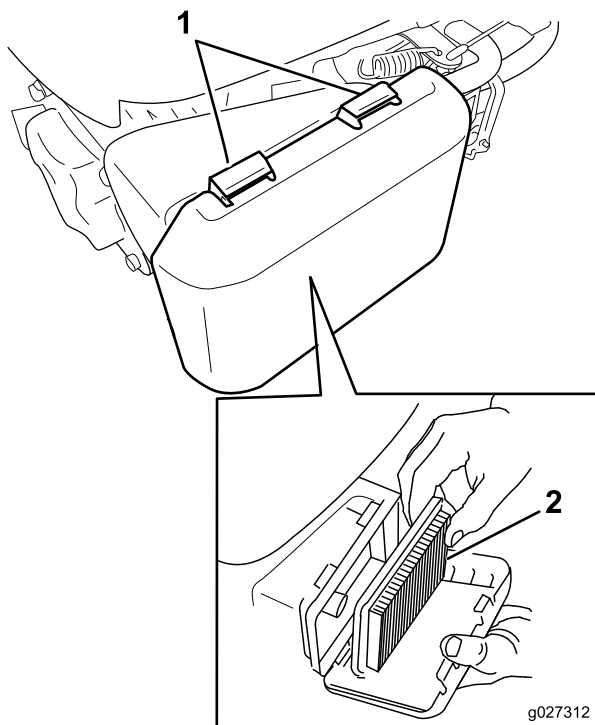

Figure 27
2. Press down on the latch tabs on top of the air-filter cover (Figure 27).